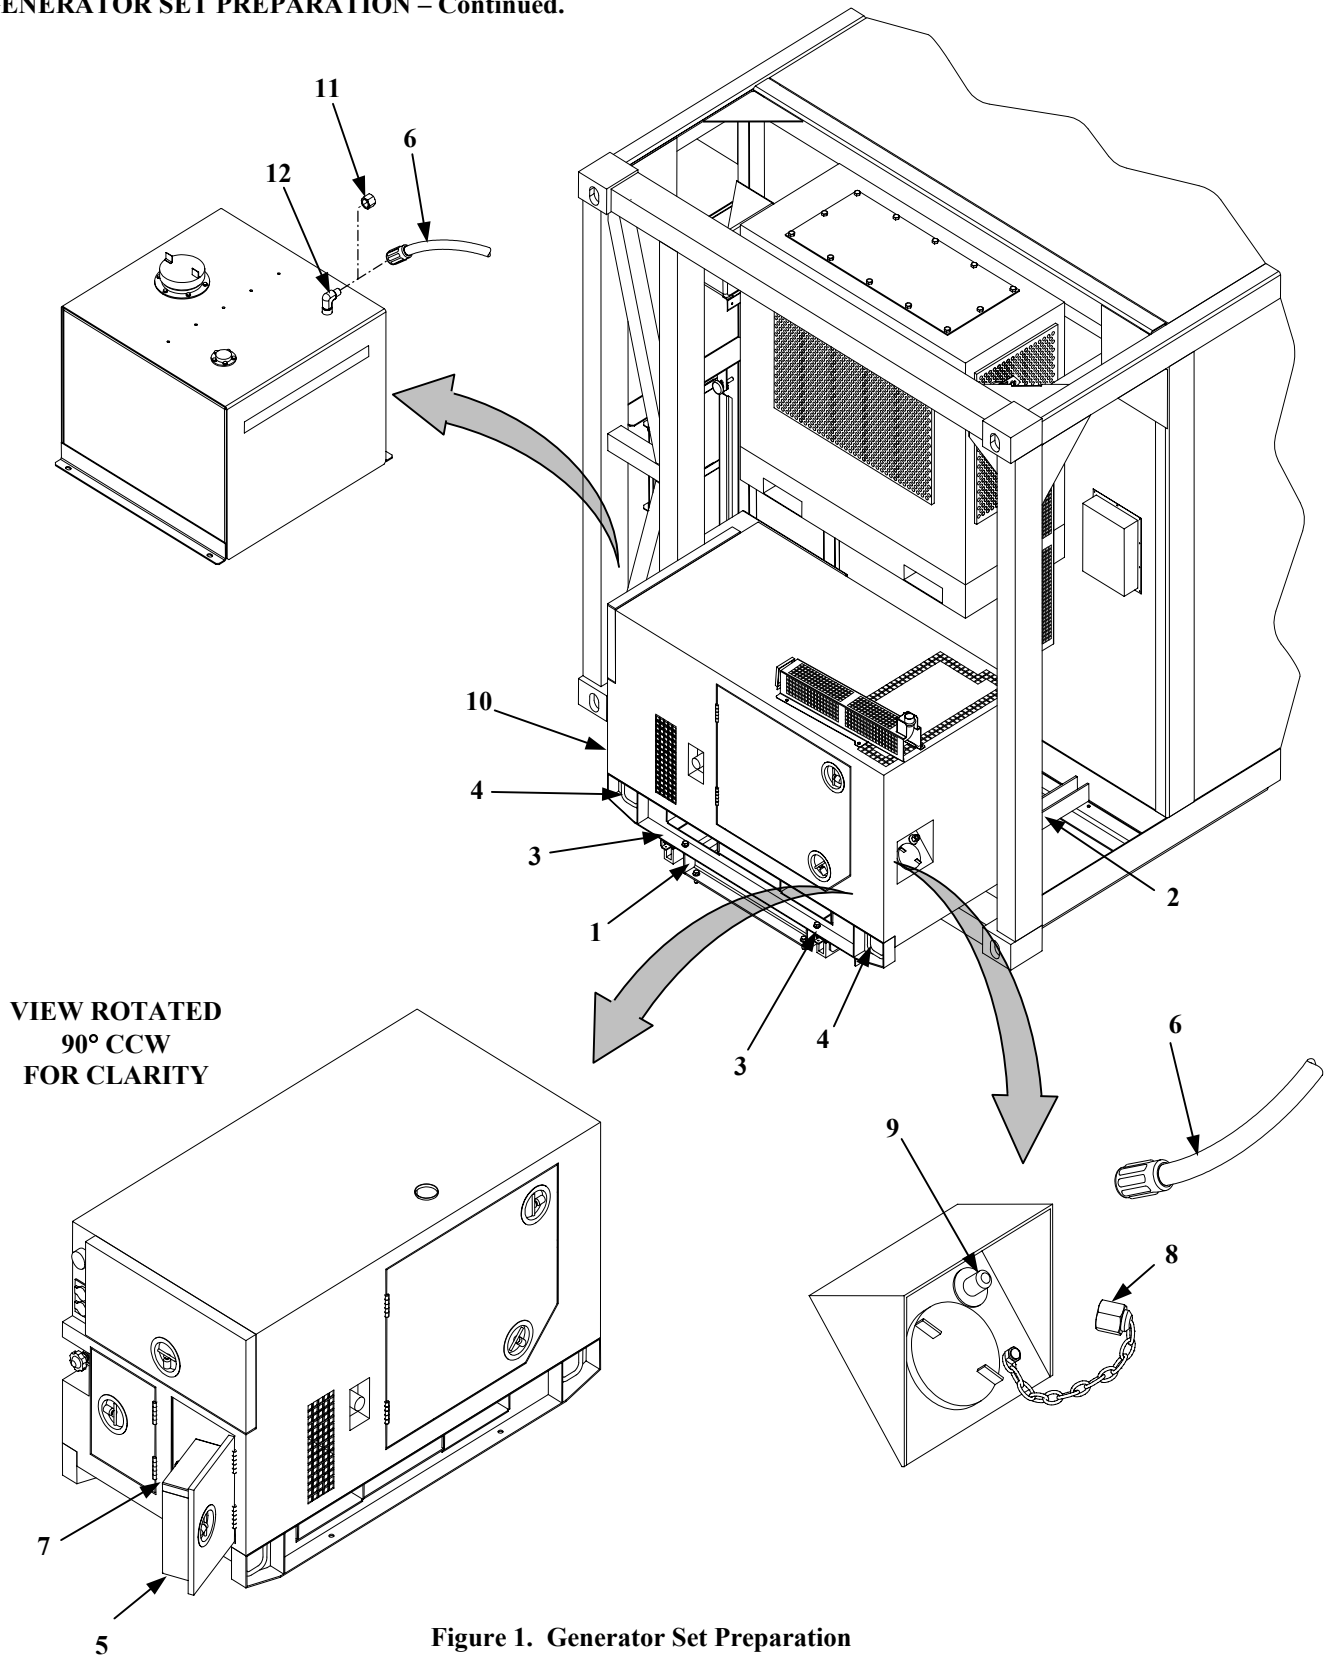

Figure 1. Generator Set Preparation
1. Remove two bolts (1, Figure 1) from refrigerated container frame generator set slides (2).
2. Using two men, release the retention latches (3) simultaneously and pull from both sides on the generator set, lifting rings (4) until generator set unit slides uniformly out.